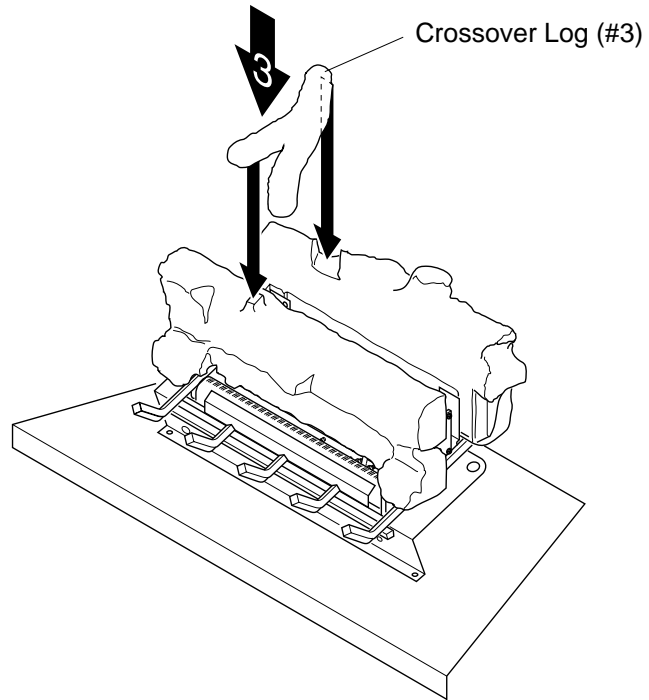

Figure 24 - Installing Crossover Log
- Place crossover log (#3) into place (see Figure 24). Be sure to place back of crossover log into notch on left side of rear log. The indentation under front left fork of crossover log must rest on rectangular knob of front log.